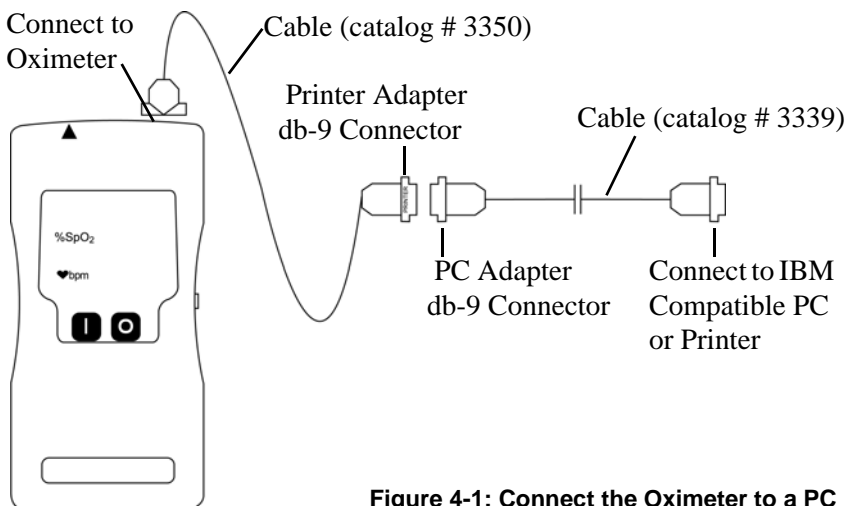

Figure 4-1: Connect the Oximeter to a PC
- Using the PC adapter cable (part #3339), connect the 9-pin connector of the PC adapter cable to the COM port on the PC as shown in figure 4-1.